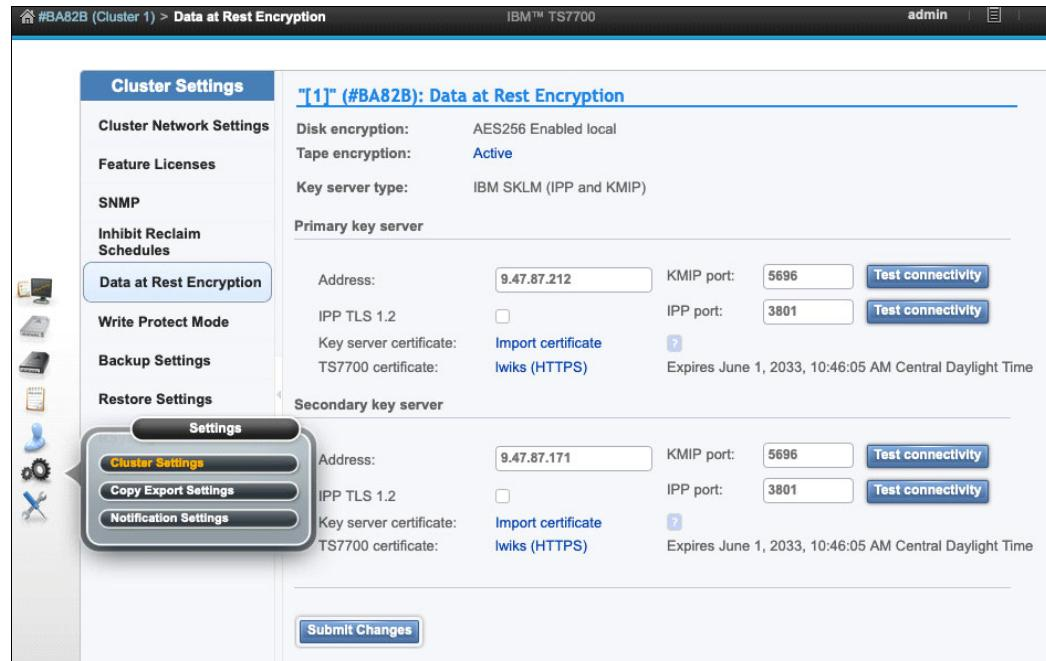

Figure J-4 Data at Rest Encryption window (KMIP and IPP to be configured)
- ▶ Figure J-2 shows a configuration in which the TS7700 disk cache is not externally key managed. If it is externally key managed, more options might be visible on this page, as shown in Figure J-4 on page 1045. Any displayed KMIP options are not applicable to physical tape encryption. Only IPP options apply to physical tape encryption.
Physical tape encryption also uses IPP. Therefore, settings might exist for KMIP and IPP, based on your hardware configuration (see Figure J-4).
It is a best practice to have two configured EKMs, which are replicas of each other for redundancy. The TS7700 must know the IP addresses or DNS style names of the target EKMs. This configuration can be done by using the Data at Rest Encryption page by selecting **Settings** → **Cluster Settings** (see Figure J-4 on page 1045).